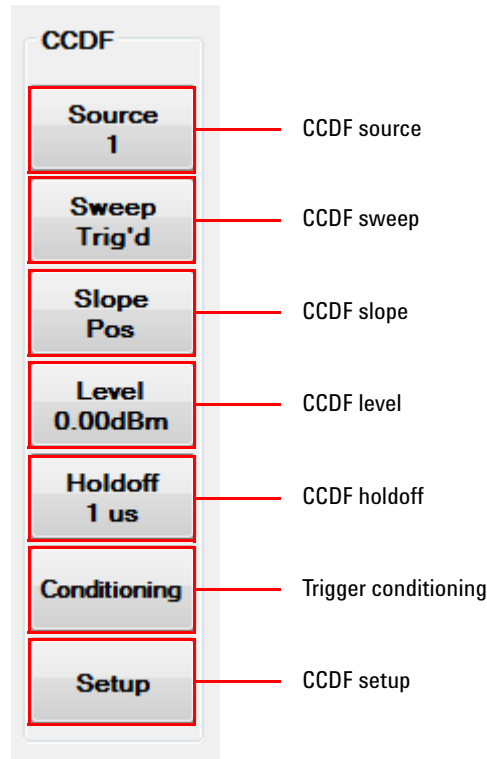

Figure 2-65 CCDF menu on the graphical interface
- 5 To configure the CCDF settings, select the individual buttons on the CCDF menu to toggle between selections or access the menu dialog as shown in Figure 2-65.